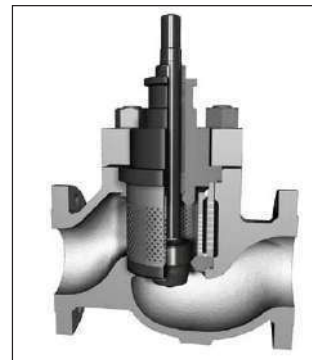

Figure 8
- 8.3.1. MegaStream replaces the standard Mark One retainer with a drilled hole retainer, see Figure 8. The plug and bonnet are typically identical to the standard Mark One design. Assembly and disassembly of the valve follows the standard procedures.